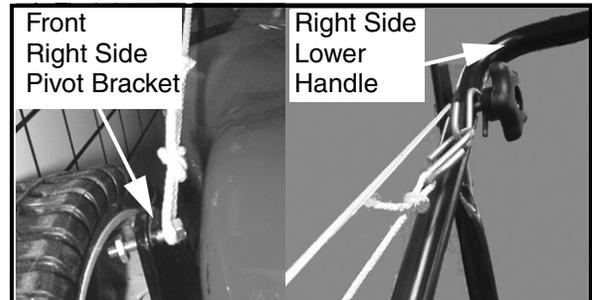

FIGURE 3
NOTE: Use caution in the next step. The front pivot axle is spring loaded. This spring load is carried to the rear pivot axle through the cross bracket (front to rear height adjuster rod). Therefore, the cross rod must be held tightly or the front axle's pivot rod secured from rotating in some similar manner as shown in Figure 3.
56. Carefully remove the front pivot axle restrainer setup installed earlier and the vise grip pliers. See Figure 3.